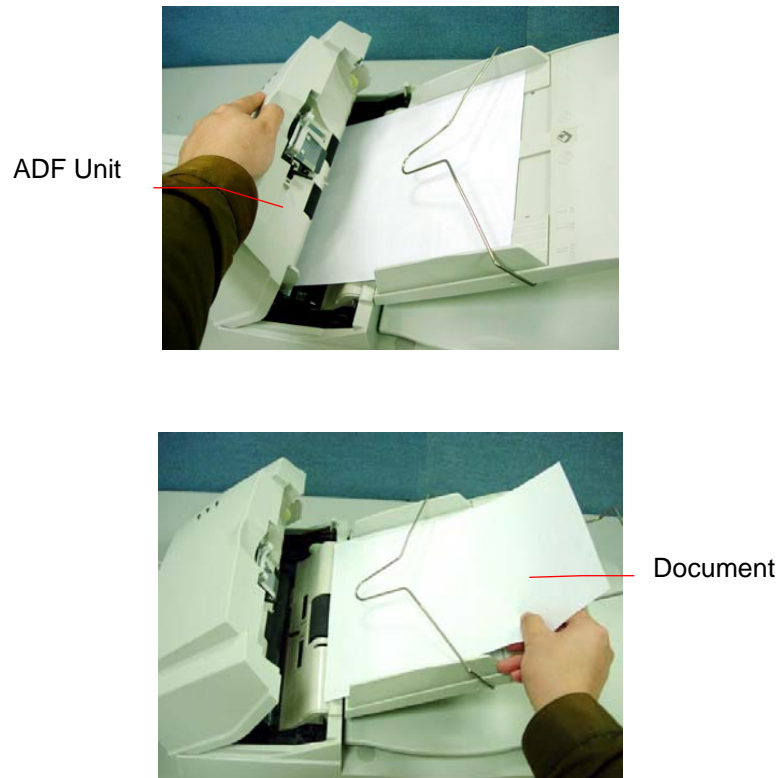

Figure 7-1 ADF Paper Jam - Removing the Paper
- i). Open the ADF cover as shown in Figure 7-1.